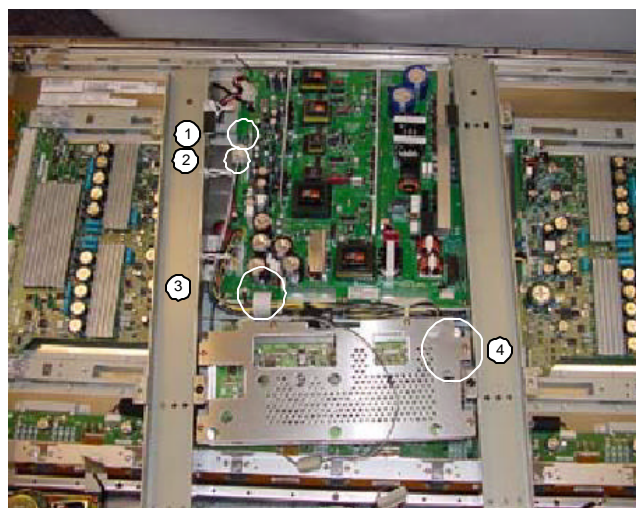

FIGURE 9-8 - ATTACH 4 CONNECTORS
- Plug in four connectors from the B board into the plasma panel as shown in Figure 9-8. CN9004 next to connector 2 is not used. The fourth connector is under the B board.